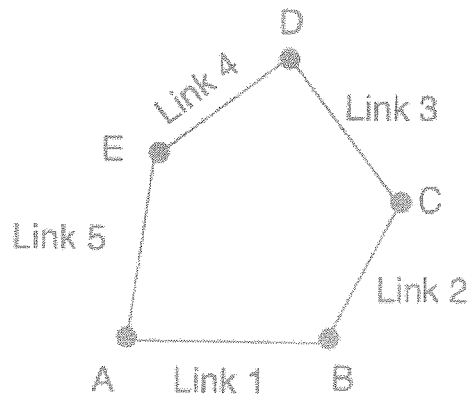

Figure Q1
- d) The Figure Q1 shows a five link chain. Explain why it has little practical importance in kinematics. [3.0 Marks]